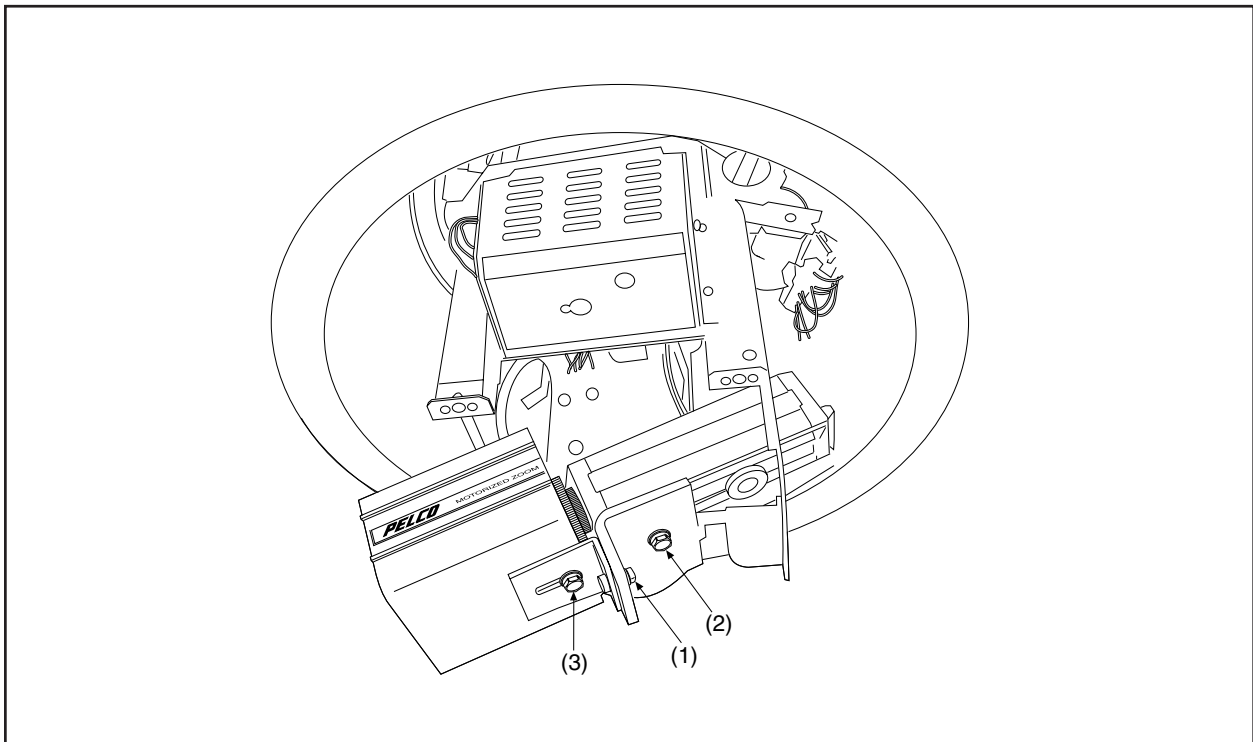

Figure 3. Attaching Camera/Lens to Tilt Table
1. Loosen the 1/4-20 lens support fastener (item 1 in Figure 3) and slide lens support down.
2. Attach camera/lens to the tilt table with the 1/4-20 x 3/4" bolt, flat washer, and lock washer (items 2 in Figure 3) that are provided.
3. Now slide the lens support up to the lens and, if applicable, fasten with the 1/4-20 x 1/2" bolt, flat washer, and lock washer (items 3 in Figure 3) that are provided.